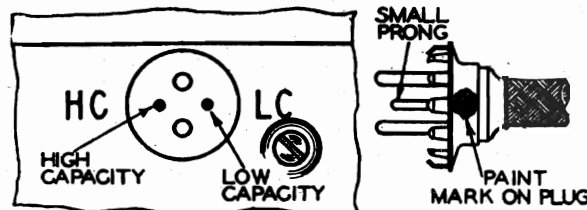

Fig. 10—Antenna Plug Insertion
**IMPORTANT**—If the car antenna is of high capacity (600 mmf. or higher) insert the antenna plug with the mark on the HC side—See Fig. 10. If it is a low capacity antenna, insert the plug with the mark on the LC side.